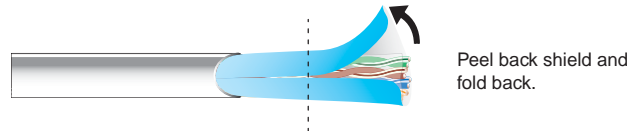

Figure 7. Peeling Back the Cable Shielding
1. Peel back the cable shielding (see Figure 7) from the end of the cable the length of the RJ-45 connector body (approximately 7/8 inch [2.2 cm]) and fold it back.